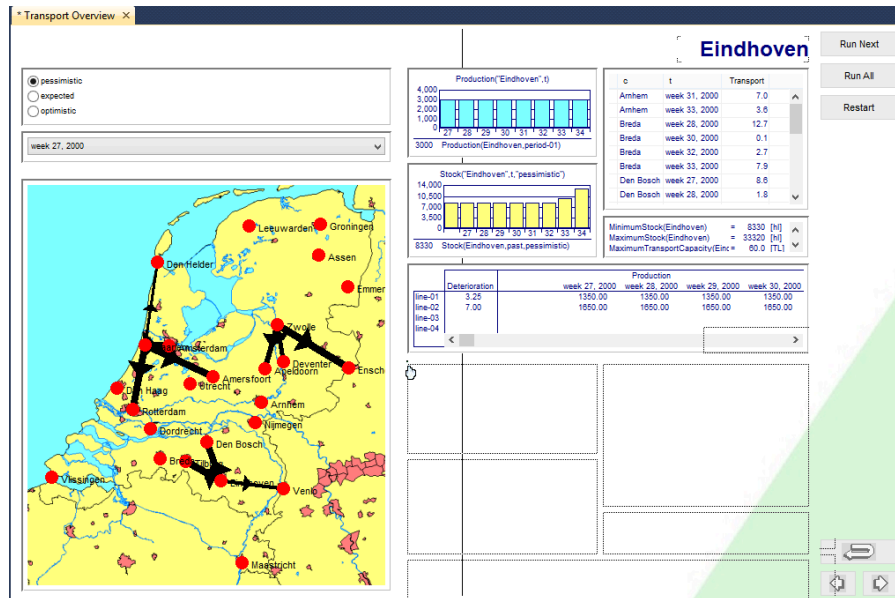

Figure 11.42: The copy and paste process illustrated
- ▶ position the five objects underneath the factory information area (see Figure 11.42), and